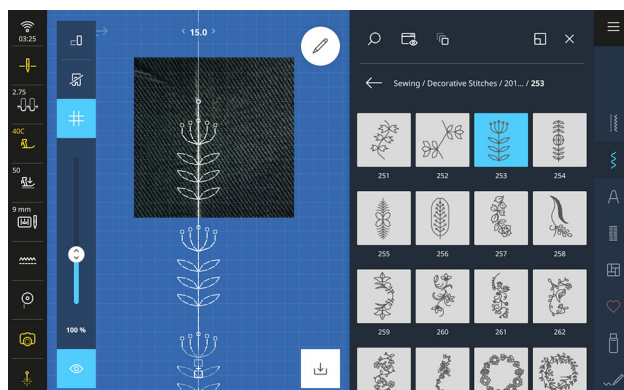

Fig. 23
5.   From the View Tool-bar, turn on the Grid View (Fig. 23).